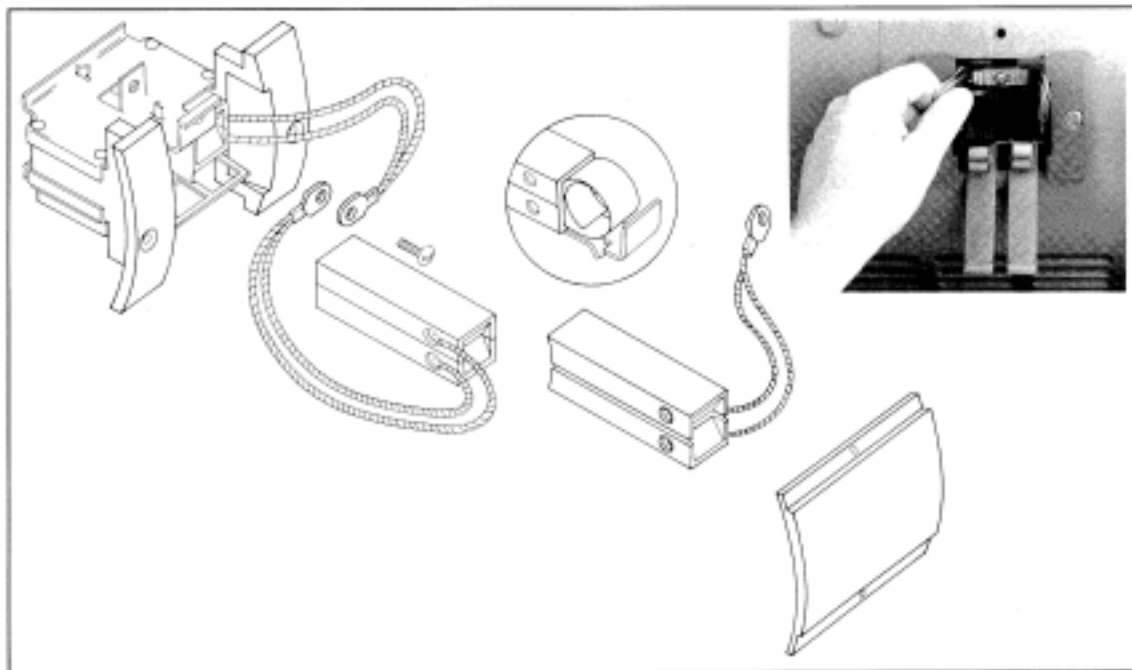

Figure 2
E. Brushes (Refer to Figure 2)